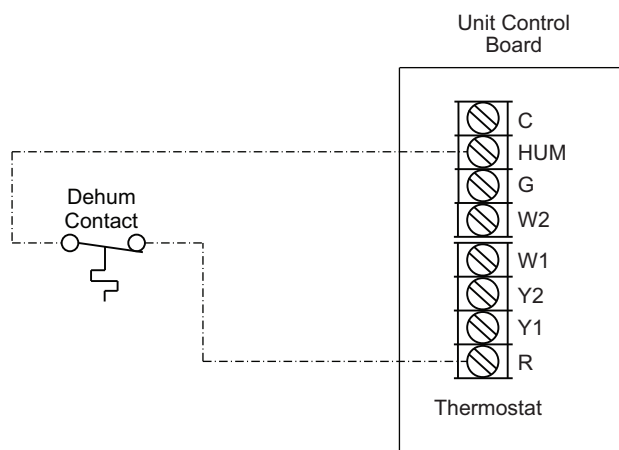

Fig. 59 — Humidistat Connections to UCB (Electromechanical Units)
4. For electromechanical controller units connect one of the leads from the 2-conductor cable to the HUM terminal on the UCB (Unit Control Board). Connect the other lead to the R terminal on the UCB. See Fig. 59.